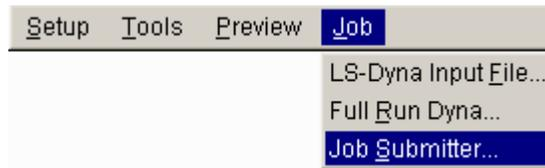

Figure 1.39 Job Submitter menu
1. Click **Job**→**Job Submitter...** in the menu bar. See Figure 1.39.